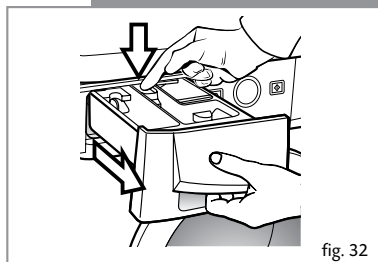

fig. 32
- Pull outwards on the detergent dispenser to remove it completely (Figure 32).